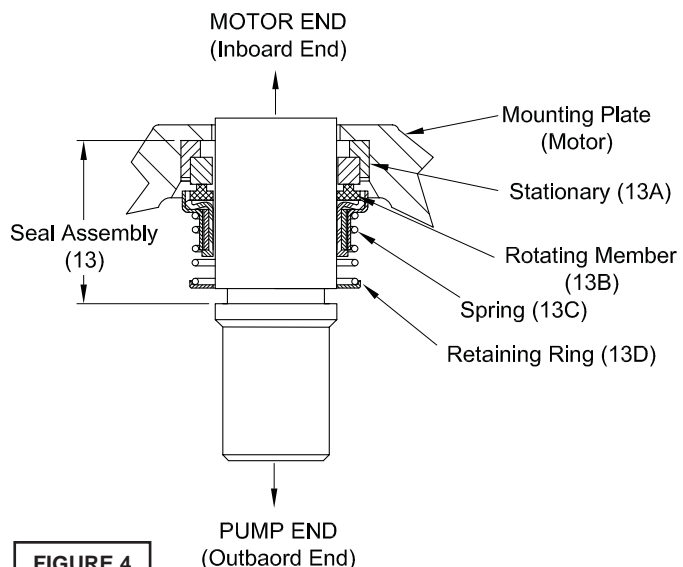
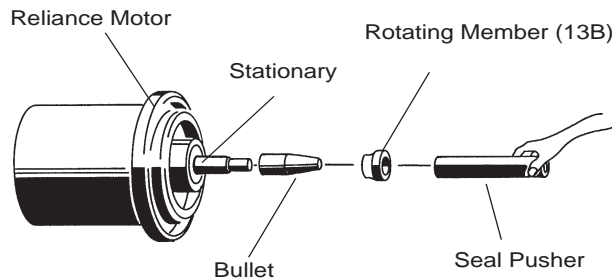

FIGURE 4
FIGURE 6
To expose outer shaft seal (13) for examination, remove Impeller and Volute per Section F-1.1. Set motor assembly (2) in the up position to prevent loss of oil. Remove snap ring from motor shaft, then retaining ring (13D), spring (13C) and rotating member (13B) from shaft, See Fig. 4. Examine all seal parts and especially contact faces. Inspect seal for signs of wear such as uneven wear pattern on stationary members, chips and scratches on either seal face. **DO NOT** interchange seal components, replace the entire shaft seal (13). If replacing seal, remove stationary (13A) from mounting plate by prying out with flat screw driver.
Make sure the stationary member is in straight and that the rubber ring is not out of its groove. Lightly oil (**DO NOT use grease**) shaft and inner surface of bellows on rotating member (13B) see Fig. 6. With lapped surface of rotating member (13B) facing inward toward stationary member (13A), slide rotating member (13B) onto shaft using a seal pusher, until lapped faces of (13A) and (13B) are together. (see Fig. 4).